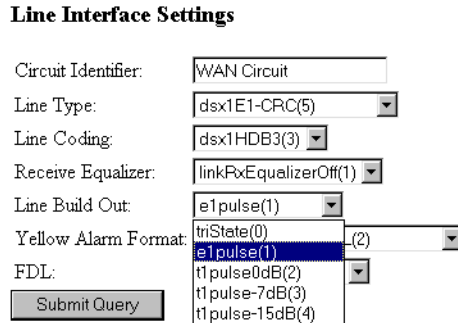

Figure 39. Line Build Out pull-down menu with e1pulse(1) selected
- From the *Line Build Out* pull-down menu (figure 39) select *e1pulse(1)*.